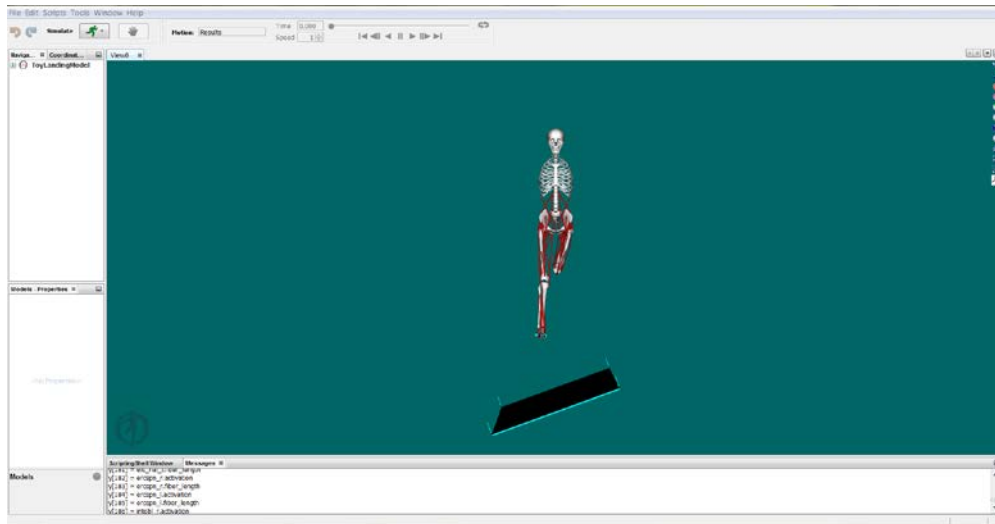

Figure 1 The graphical user interface of OpenSim
- g. Click on **Figure 1** in the Curves List to highlight it. Click again to rename. Modify the title field (e.g., "Ankle Inversion during Drop Landing"). Alternatively, right click and edit using the **Properties** menu, or click **Properties...**